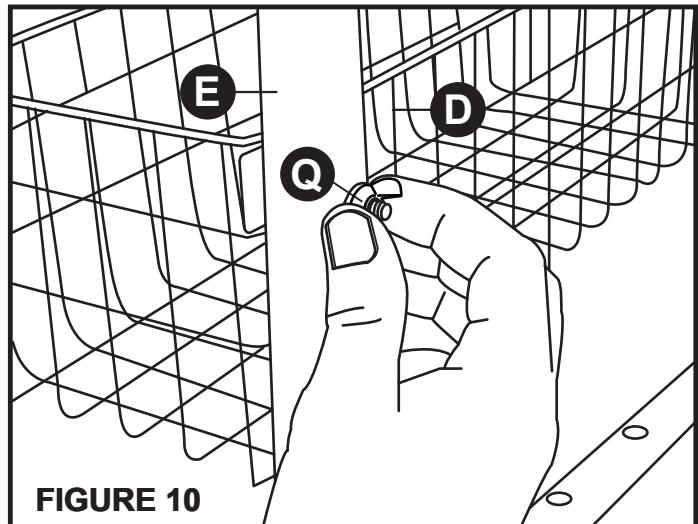

FIGURE 10
10. Attach basket (D) to the U-handle (E) using two Basket Bolts, (Q) and wing nuts. Hand tighten and then secure with pliers. **See Figure 10**